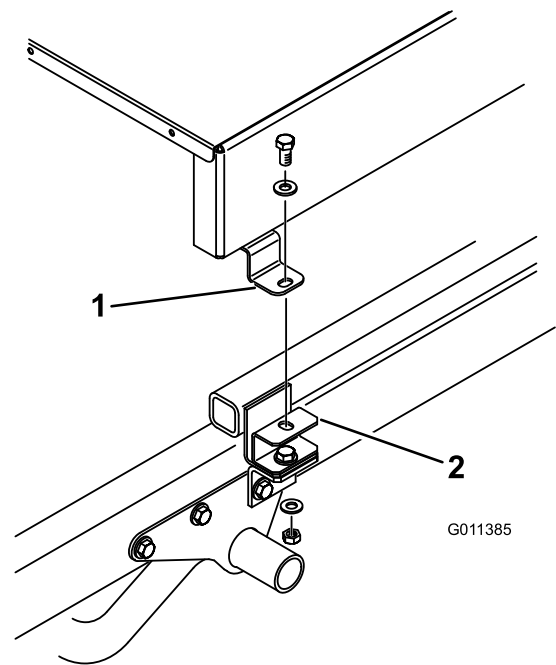

**Figure 10**
- Loosely secure the top of each attachment bracket (Figure 10) or spacer mount (Figure 11) to the mounting tab on each side of the topdresser with a 1/2 x 1 inch cap screw, 2 flat washers, and locknut. Tighten all fasteners.